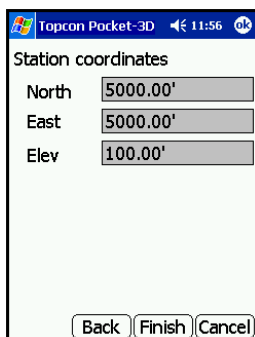

Figure 5-8. Station Coordinates Dialog Box
10. The *Station coordinates* dialog box displays coordinates for the LPS Station point. Press **Finish** to store the coordinates and start the LPS Station (Figure 5-8).